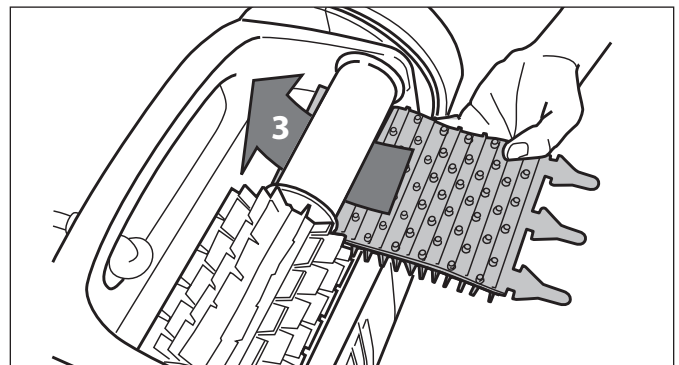

Figure 33. Install the New Brush
3. To install a new brush, position the new brush on the roller with the spikes facing downwards. Refer to Figure 33.